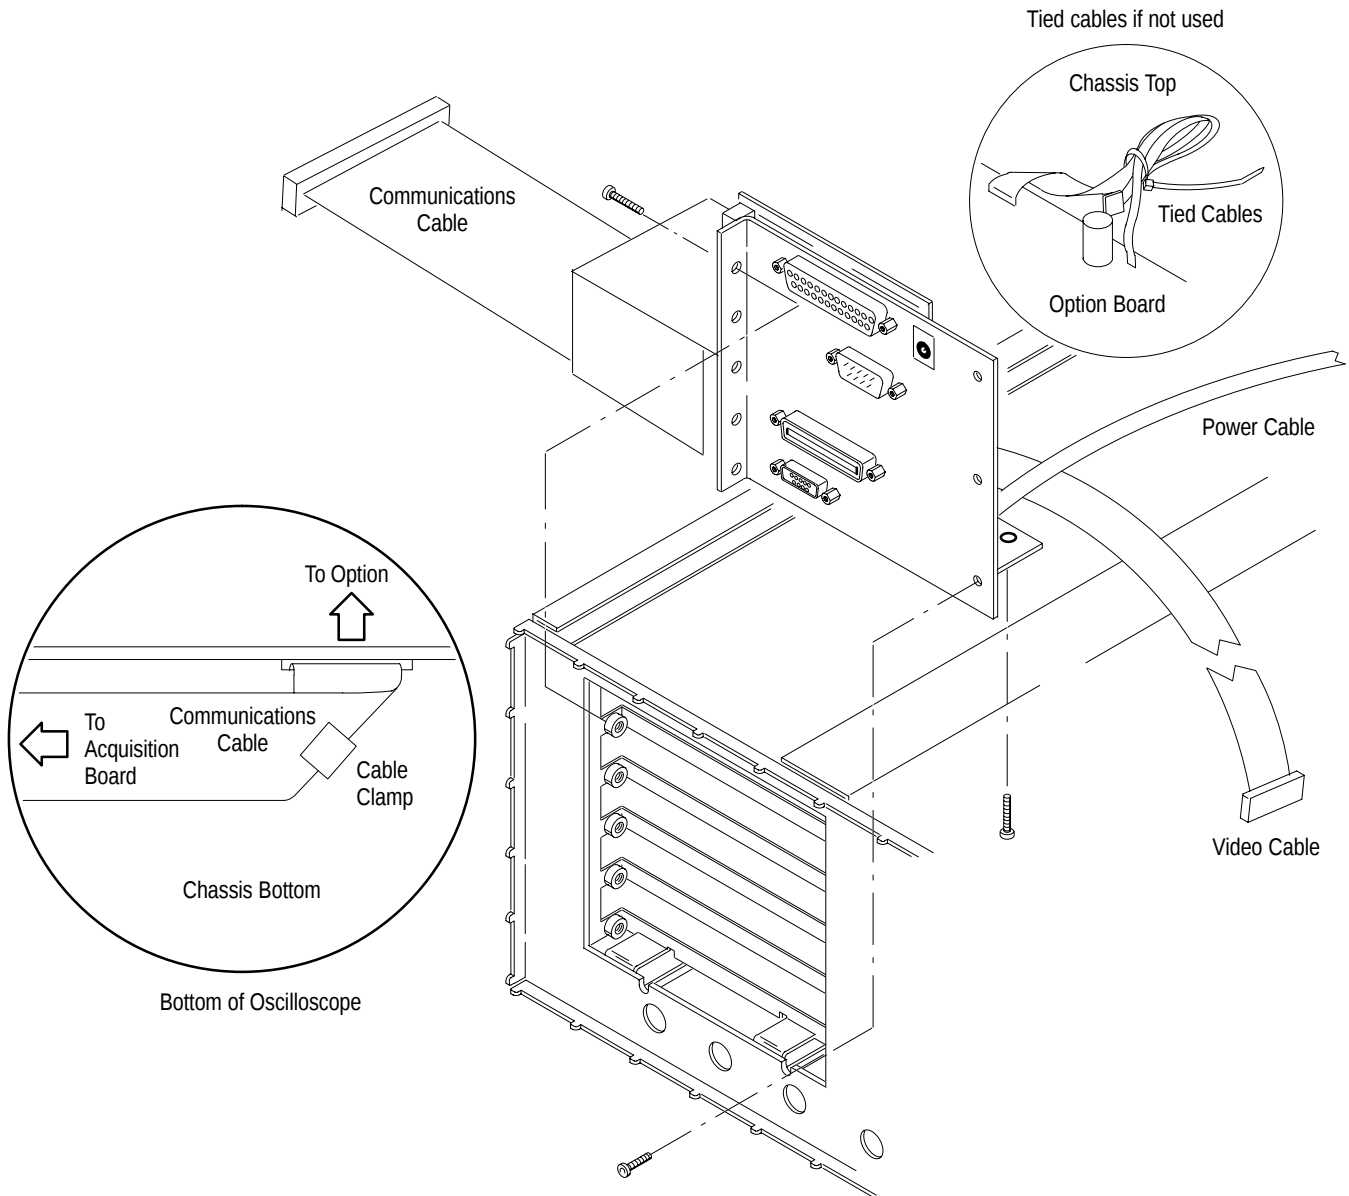

Figure 6-15: Option 14 Assembly Removal
3. Disconnect the main board communications cable (J601) *at the main board*. Remove the cable from its cable clamp (see Figure 6-15).
5. If used on your option, remove the two screws connecting the assembly to the chassis (see Figure 6-15) using a screwdriver with a size T-15 Torx® tip.
9. Using a screwdriver with a size T-15 Torx® tip, remove the two screws on the left side of the assembly (see Figure 6-15).